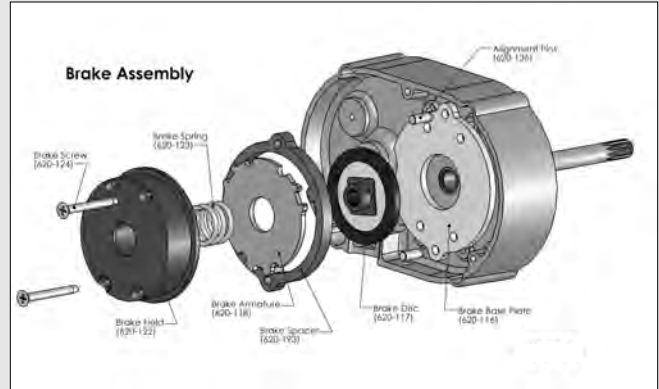

Figure 8B
- Refer to Figure 8B and disassemble the brake. Depress and hold the field assembly (620-122) while removing the four brake screws (620-124). The field assembly is under spring pressure and will spring-out if not held.
- Refer to Figure 8B and assemble the brake. Depress and hold the field assembly (620-122), while installing the four brake screws through the brake parts and mount the brake on the gear housing (620-113). Tighten the four brake screws (620-124) to 25 in.lb. (2.8 NM).